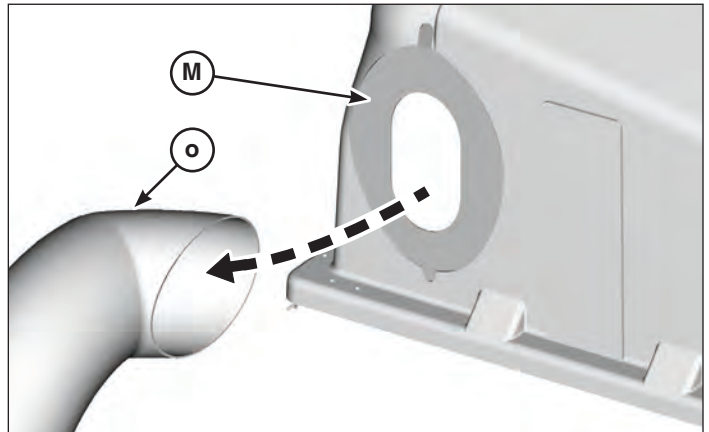

Figure 32
4. Slide the discharge end of upper tube (o, Figure 32) out of cover seal (M). Remove tube assembly.